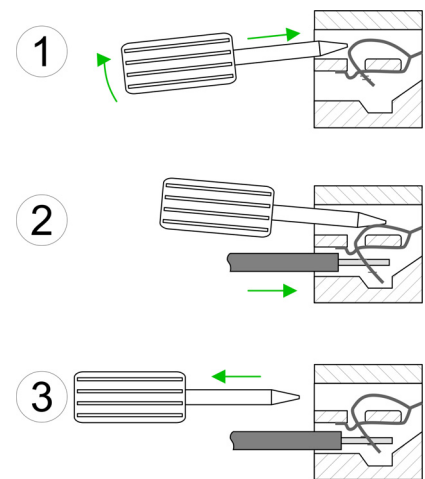

Fig. 8-3: Wiring
- 1 | Insert the screwdriver slightly inclined in the rectangular opening (see Fig. 8-3: "Wiring" 1).
- 2 | Press and hold the screwdriver away from the round opening. The contact spring is open (see Fig. 8-3: "Wiring" 2).
- 3 | Put the stripped wire in the round opening (see Fig. 8-3: "Wiring" 2).
- 4 | Remove the screwdriver (see Fig. 8-3: "Wiring" 3).